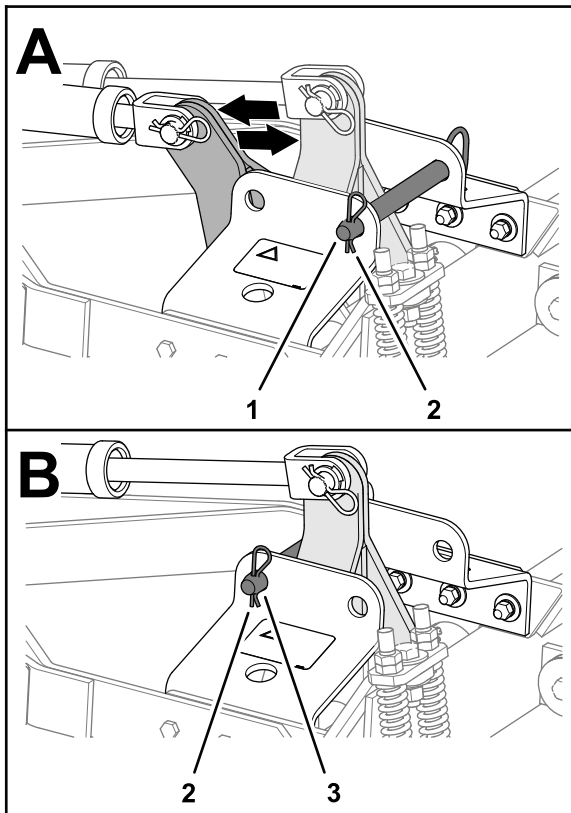

Figure 22
lock-bar bracket, and secure the lock pin to the bracket with the hair pin (Figure 22).
7. Remove the hair pin and move the lock pin to the forward holes (transport position) in the lock-bar bracket, and secure the lock pin to the bracket with the hair pin (Figure 22).